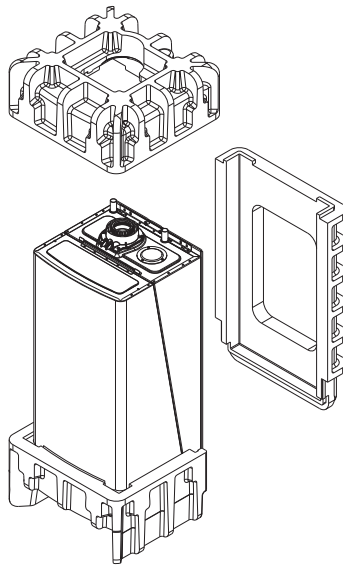

Fig. 23
b) Remove the upper packaging to leave the appliance on the base packaging (Fig. 23).